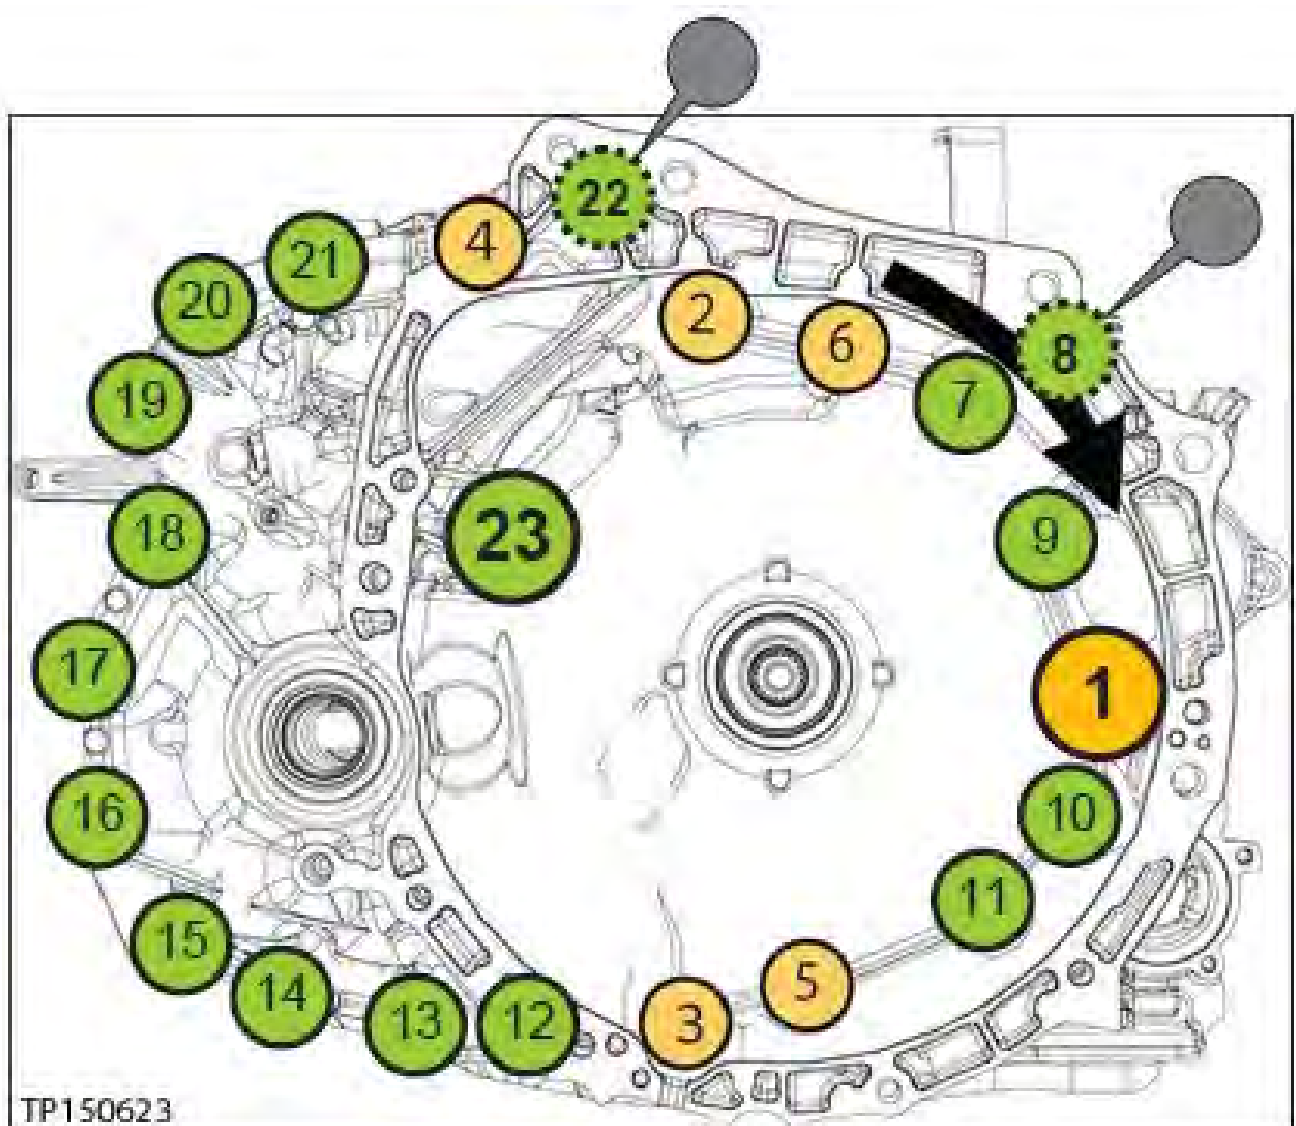

Figure 171
16. Install the converter housing onto the CVT case (see Figure 171 for torque sequence):
- Install new bolts (23).
- a. Torque the first six (6) bolts with symbol  in numbered sequence (see below).
**IMPORTANT:** Make sure to torque the bolts in the sequence shown (Figure 171).